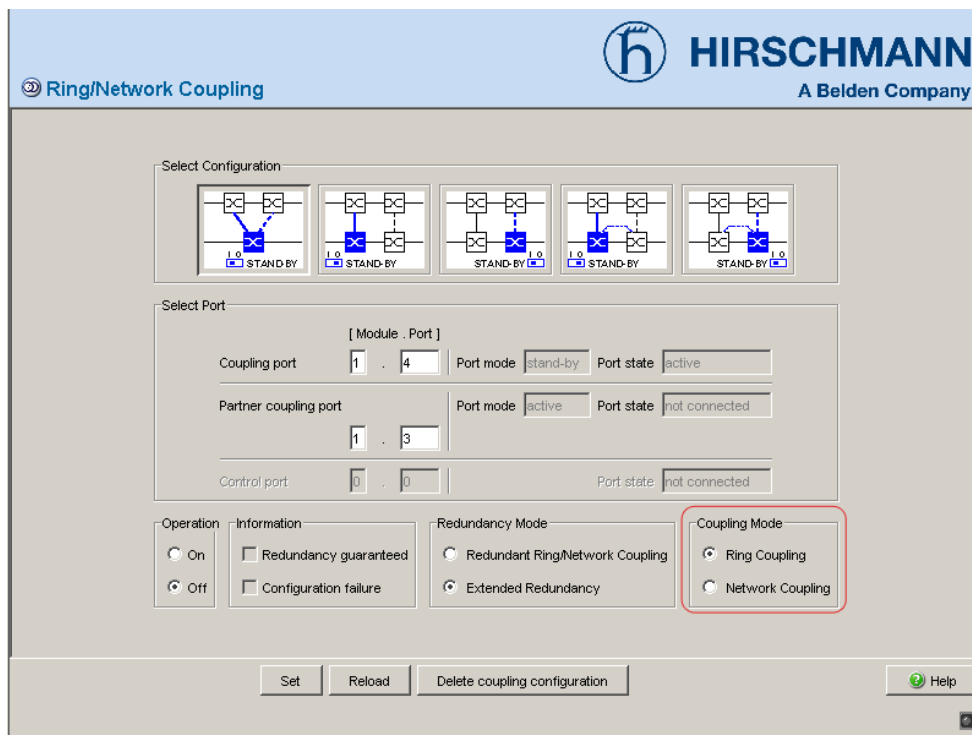

Fig. 17: Selecting the coupling mode
- Select in the frame "Coupling mode" (see Fig. 17)